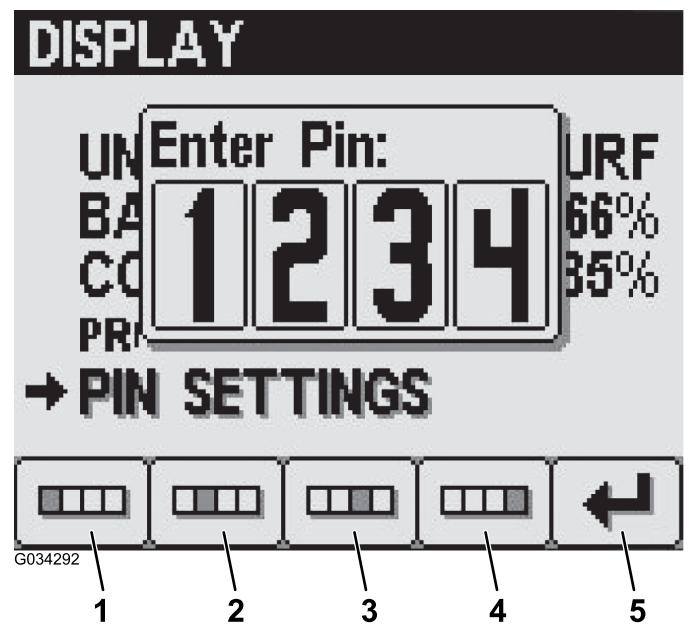

Figure 15
2. Enter your PIN using buttons 1 to 4 and press button 5 when you complete the PIN (Figure 15).
4. Enter your old PIN using buttons 1 to 4 and press button 5 when you complete the PIN (Figure 15).